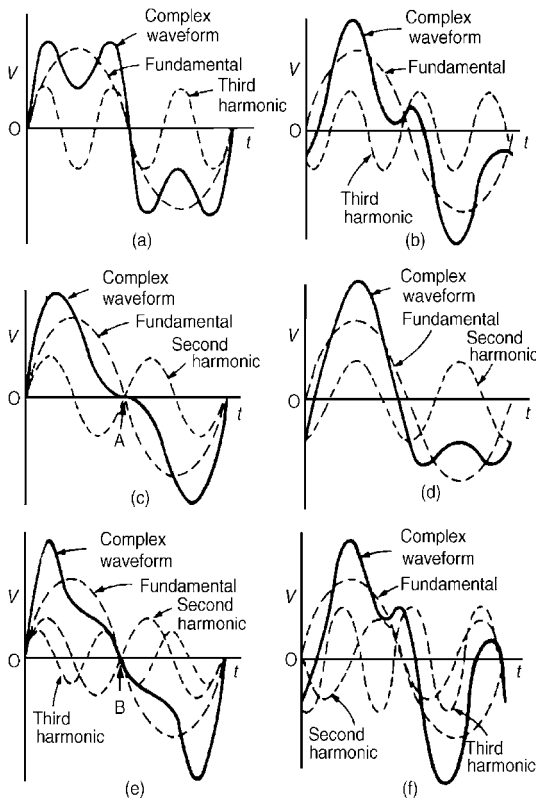

Figure 10.29
half the amplitude of the fundamental is shown in Fig. 10.29(a), both waveforms being initially in phase with each other. If further odd harmonic waveforms of the appropriate amplitudes are added, a good approximation to a square wave results. In Fig. 10.29(b), the third harmonic is shown having an initial phase displacement from the fundamental. The positive and negative half cycles of each of the complex waveforms shown in Figs. 10.29(a) and (b) are identical in shape, and this is a feature of waveforms containing the fundamental and only odd harmonics.
- (iii) A complex waveform comprising the sum of the fundamental and a second harmonic of about half the amplitude of the fundamental is shown in Fig. 10.29(c), each waveform being initially in phase with each other. If further even harmonics of appropriate amplitudes are added a good approximation to a triangular wave results. In Fig. 10.29(c), the negative cycle, if reversed, appears as a mirror image of the positive cycle about point A. In Fig. 10.29(d) the
- (iv) A complex waveform comprising the sum of the fundamental, a second harmonic and a third harmonic is shown in Fig. 10.29(e), each waveform being initially 'in-phase'. The negative half cycle, if reversed, appears as a mirror image of the positive cycle about point B. In Fig. 10.29(f), a complex waveform comprising the sum of the fundamental, a second harmonic and a third harmonic are shown with initial phase displacement. The positive and negative half cycles are seen to be dissimilar.
The features mentioned relative to Figs. 10.29(a) to (f) make it possible to recognize the harmonics present in a complex waveform displayed on a CRO.